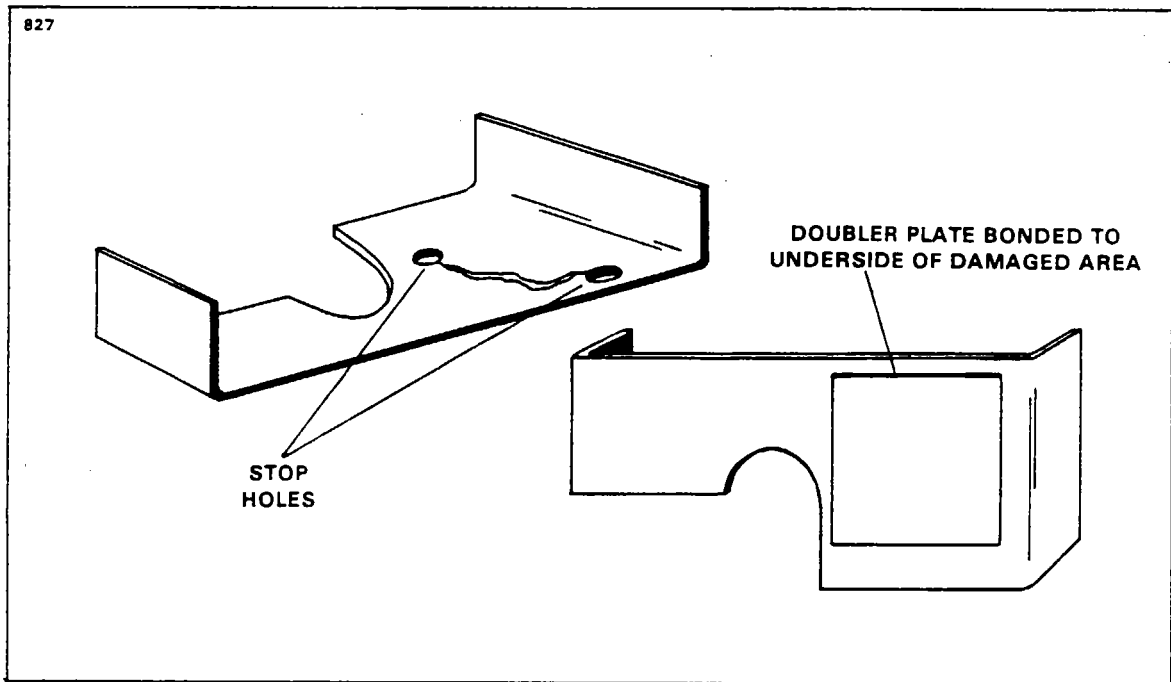

Figure 4-7. Repairing of Cracks
- d. Cracks: (Refer to Figure 4-7.)